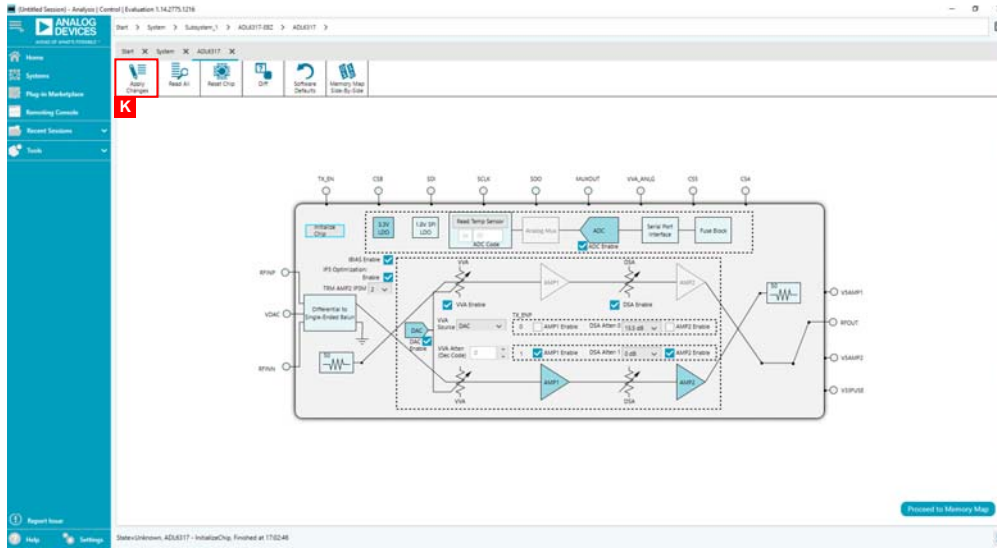

Figure 7. ADL6317-EVALZ ACE Chip View After Chip Initialization
4. After changing the block as directed in Step 3, in the **ACE** software, click **Apply Changes** (Label K, see Figure 7) to update to **ADL6317**.